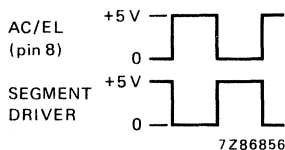

Fig. 4 AC/EL and segment driver pulses.
d.c. rest voltage between pin 8 (AC/EL) and one of the segment drivers (see Fig. 4)